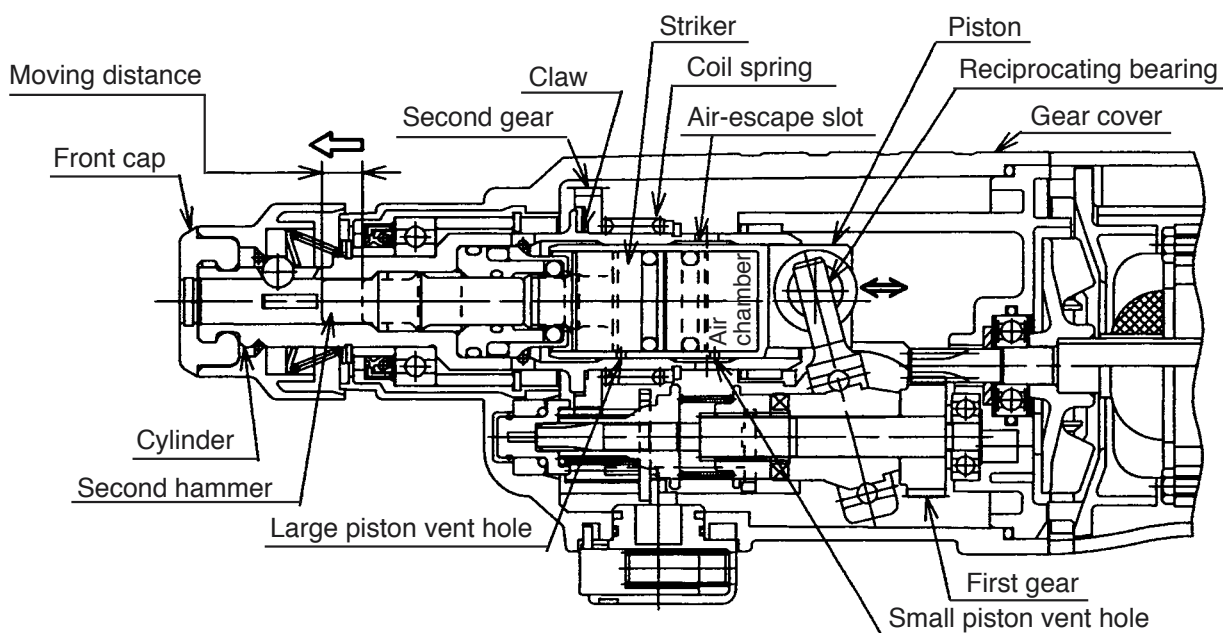

Fig. 4
The idle hammering prevention mechanism in the Model DH 24PF is different from that of conventional rotary hammers. When the drill bit is lifted from the work surface on completion of drilling, the second hammer moves to the position indicated by the continuous lines in Fig. 4 and the protruding (lip) portion at the tip of the striker is gripped by O-ring (C) mounted between the hammer holder and the damper holder. In this state, should the piston continue to move so that the small piston vent hole is blocked by the inner wall of the cylinder, the air in the air chamber will pass through the large piston vent hole and be released through the air-escape slot and large cylinder vent hole provided on the inner wall of the cylinder. Accordingly, there is no change in the air pressure within the air chamber, and movement of the striker (idle hammering operation) is prevented. The gripping force of O-ring (C) on the striker is so small in comparison with the conventional mount system that practically no pressing force at all is required to restart the hammering operation.